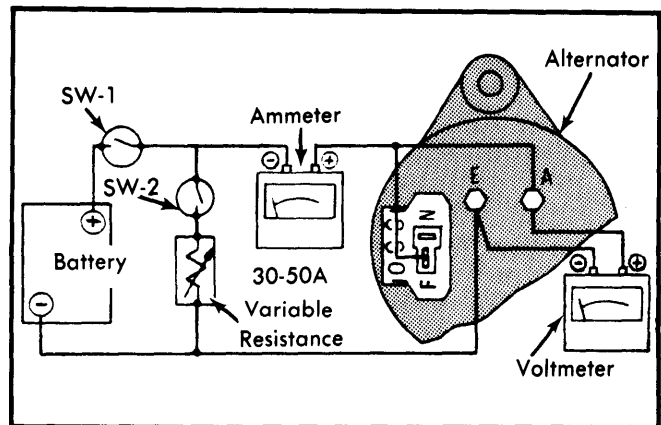

Fig. 4 Alternator Test Connections for Subaru
2) Make test connections using a 30-50 ampere variable resistor, battery, ammeter, and voltmeter as shown in Fig. 4. Operate alternator with switch "SW-1" closed. When alternator speed reaches approximately 800 RPM, set the variable resistor to maximum and turn on switch "SW-2". Increase alternator speed while maintaining a constant 14 volts by adjusting resistance. Read current at 2500 RPM and 5000 RPM. Readings should be 37-43 amperes at 2500 RPM and 48-54 at 5000 RPM.